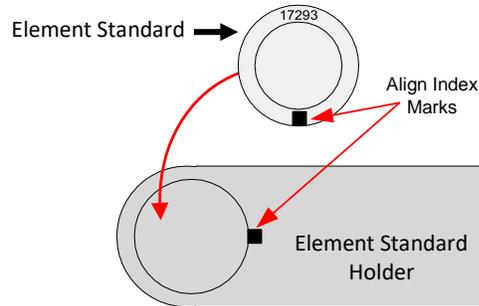

Figure 10.8 Element Standard Placement
- 10.6.7 Remove the filter tape from the analysis block (**Figure 10.8**).
10.6.8 Place the first Element Standard into the element standard holder; the deposit is on the side of the support that is attached to the ring. Align the index mark on the Element Standard with the index mark on the element standard holder. The Element Standard should be oriented with the plastic ring up (**Figure 10.8**).